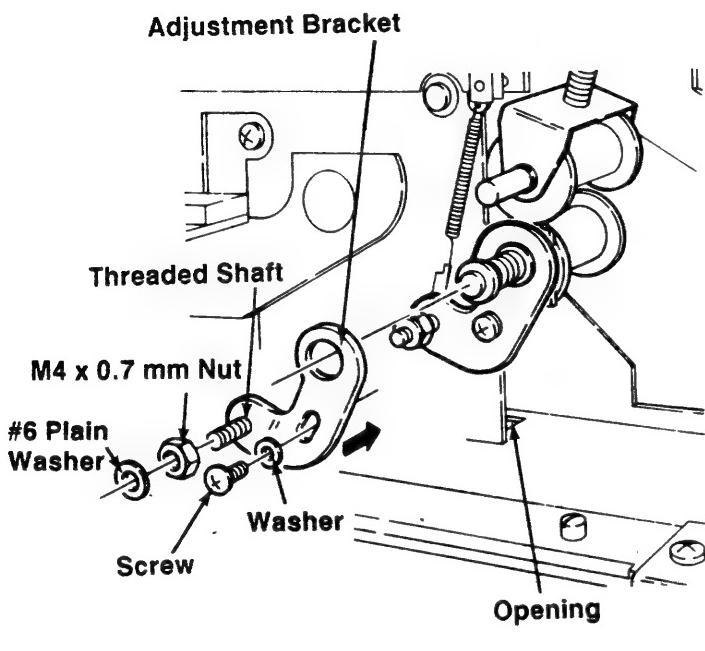

Figure 2-3.C
10. Loosely install an M4 x 0.7 mm Nut (Item 21) and #6 Plain Washer (Item 15) on the threaded shaft of the Adjustment Bracket (Figure 2-3.C).
11. Route the Blip Lamp Harness and the A Row and B Row Blip Sensor Wiring Harnesses from the Blip Sensor Housing Assembly (Item 7) to the left through the opening in the Base out of the way of the film path (Figure 2-3.C).